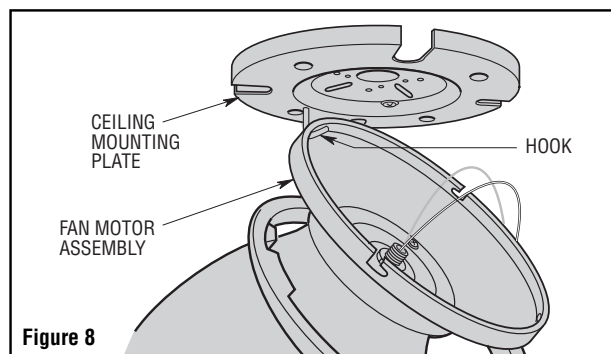

Figure 8
5. Place the motor assembly onto the ceiling mounting plate hook during wiring fan motor assembly to outlet box (Figure 8).